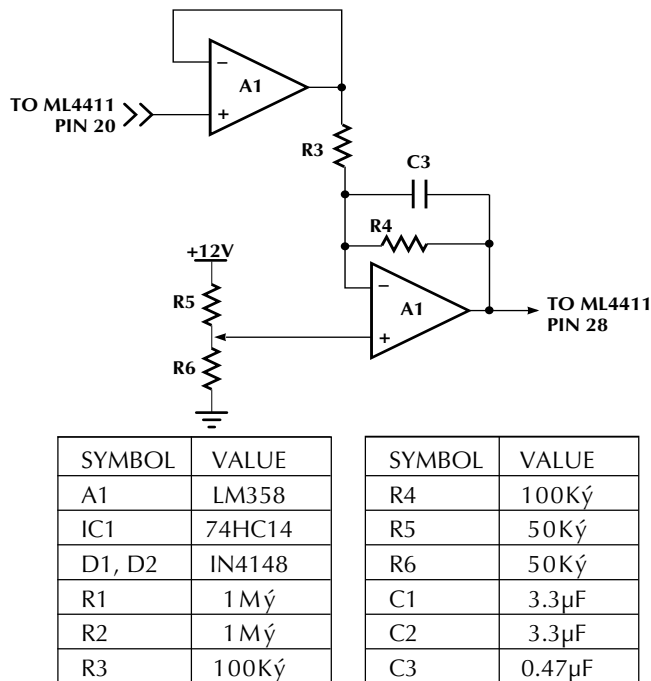

Figure 12. Analog Speed Control
2. Using analog circuitry for speed control. (Fig. 12).